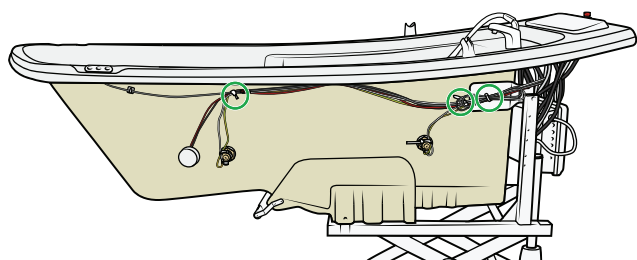
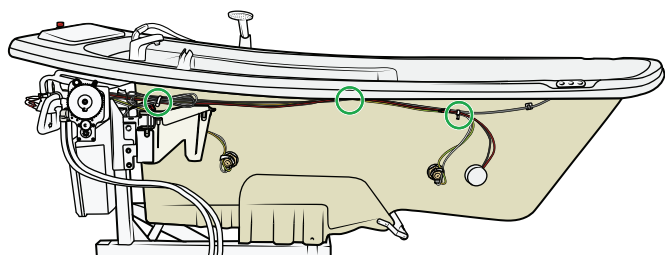

Figure 44
Figure 45
27. Cut the cable ties needed. See Figure 44 and Figure 45.